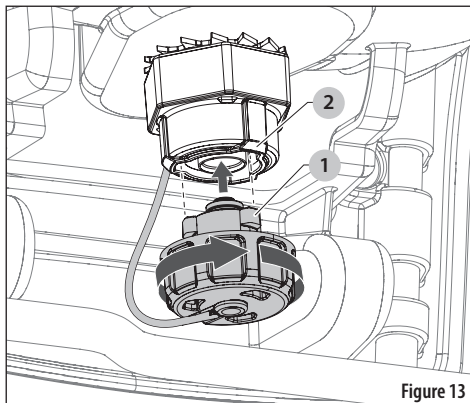

Figure 13
- Align the tethered cap plug barb tabs (1) with the tank cap (2) and push into the cap until it stops.
- Turn tethered cap plug clockwise to secure it to the cap. See Figure 13.